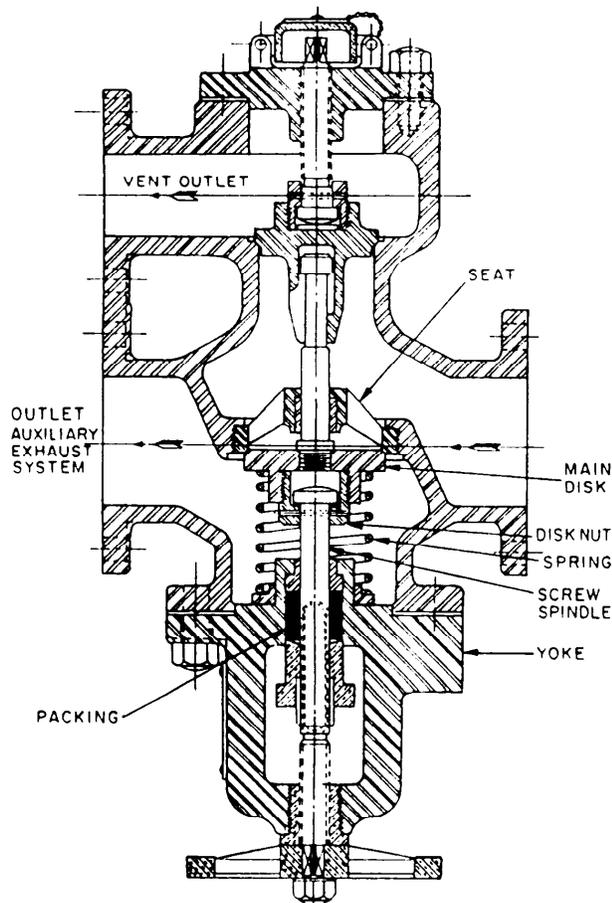

Figure 5-23.—Combined exhaust and relief valve.
**Combined Exhaust and Relief Valve.**—This valve (fig. 5-23), is a combined spring-loaded exhaust and relief valve installed in the exhaust line from the forced draft blower. The valve body, seat, and yoke are made of cast carbon steel. The screw spindle, main disk, and spring are made of corrosion-resistant steel. The stem packing is made of asbestos rod braid with wire inserted. The combined exhaust and relief valve is designed to function with inlet pressure up to 50 psig, outlet pressure up to 35 psig, and steam temperature up to 700°F.